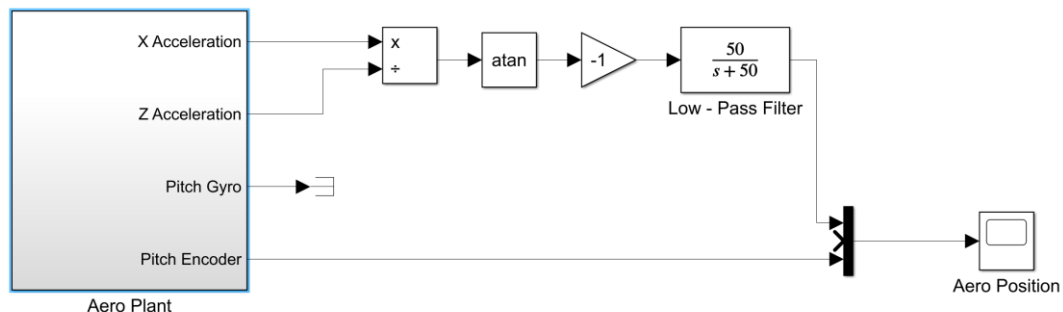

Figure 3: Calculating angle from acceleration
- Modify the QUARC model to add a Divide, Trigonometric Function as shown in Figure 3 to calculate the Aero body pitch from the accelerometer readings using equations from concept reviews highlighted in the Measurement and Filtering Application Guide, and compare the calculated angle to the encoder measurement. Note that since the Y-axis orientation opposes that of the pitch encoder, the gyroscope readings must be given a gain of -1 as well.